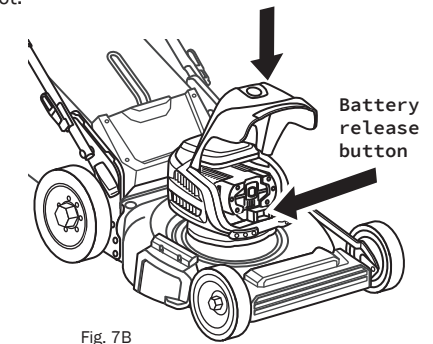

Fig. 7B
1. Lift the battery release button. The battery should automatically disengage from the locking position (Fig.7B).